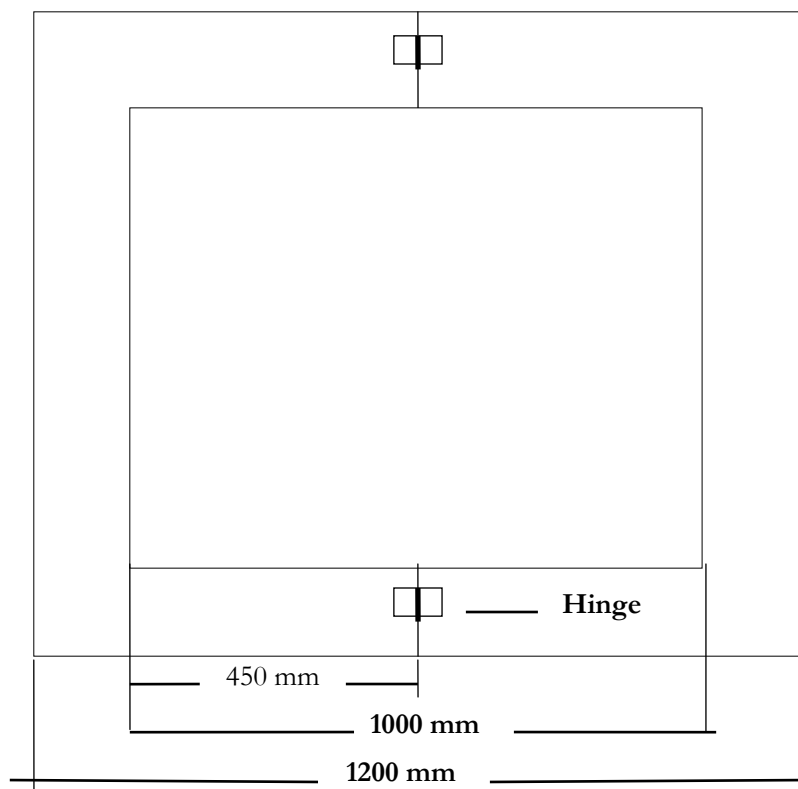

Figure 1 - Plan View
- (a) 1 m2 metal template (Figure 1).